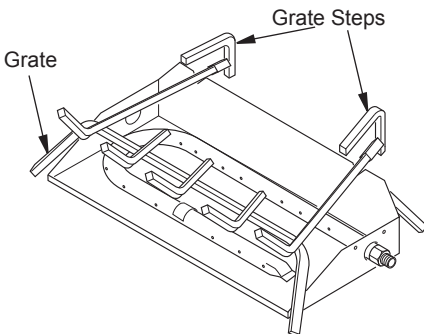

Figure 8 - Grate Steps
2. Install grate steps (see Figure 8).
2. Install grate steps (see Figure 8, page 10).